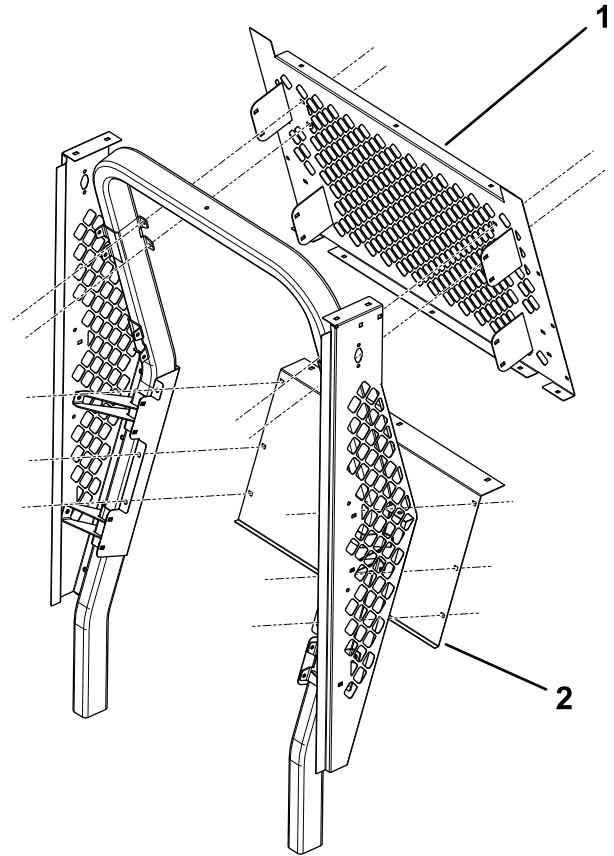

Figure 2
3. Use button-head screws (5/16 x 3/4 inch) and flange nuts (5/16 inch) to install the lower rear panel (Figure 2).
4. Use button-head screws (5/16 x 3/4 inch) and flange nuts (5/16 inch) to install the top rear screen (Figure 2).